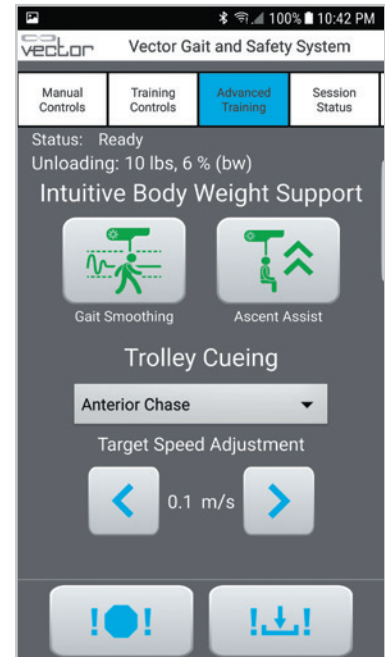

Figure 9-28
3. Set the target speed by pressing the arrow buttons. See Figure 9-28.